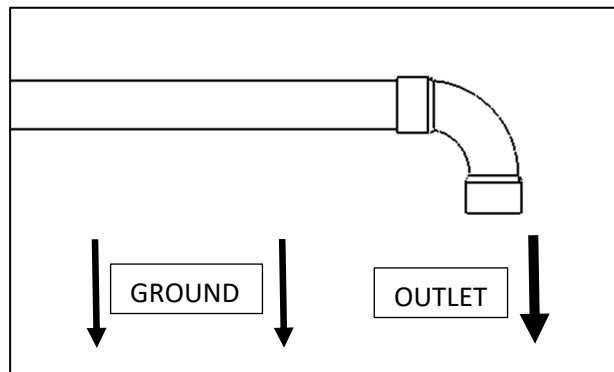

Figure 7 PRV outlet orientation
- Ensure the refrigeration pressure relief valve outlets of the field connections ends are pointing down so rainwater does not accumulate in them (Figure 7). Ensure moisture and debris is not allowed to accumulate and stop the PRV from opening.